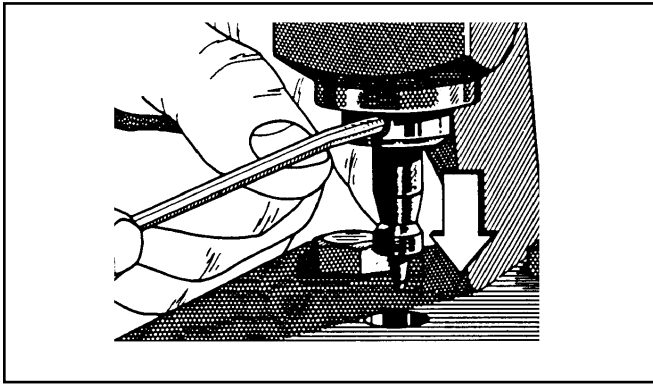

Figure 14. Removing the Punch
4. Remove the punch by loosening the set screw (Figure 14).